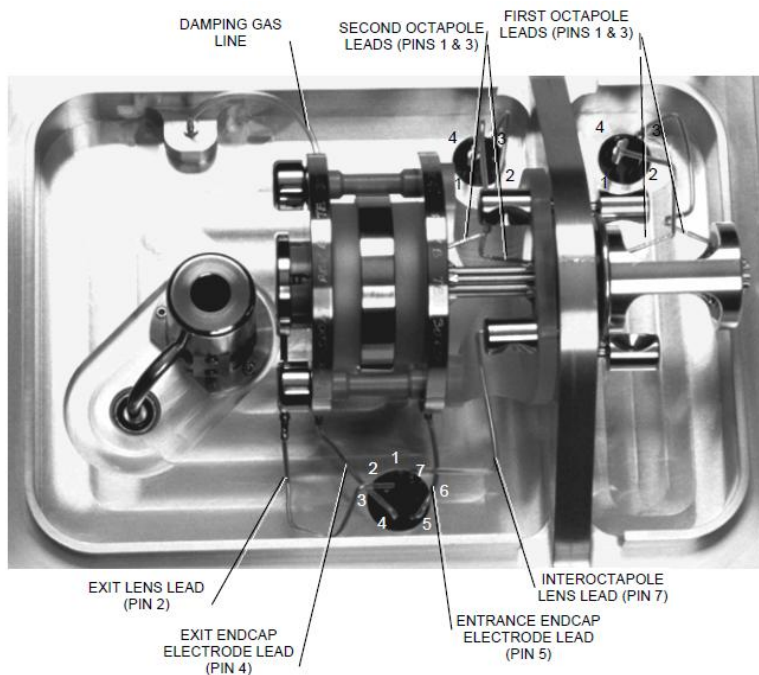
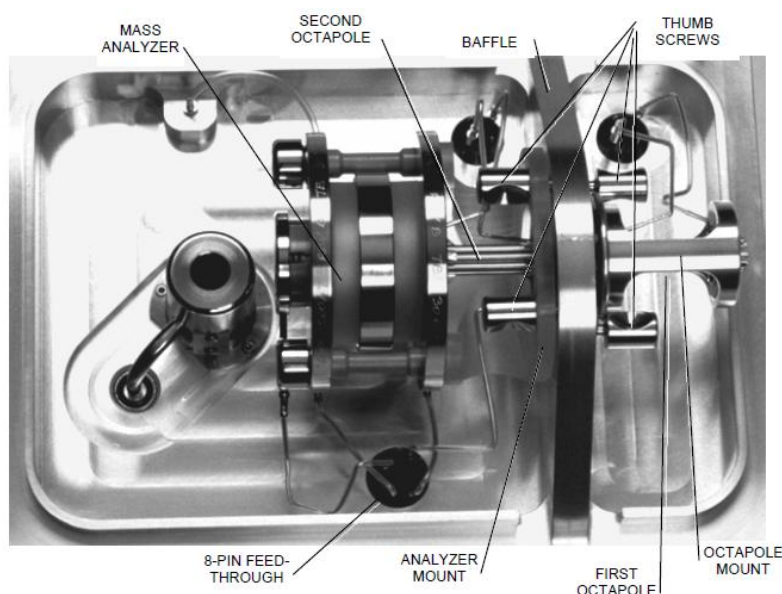
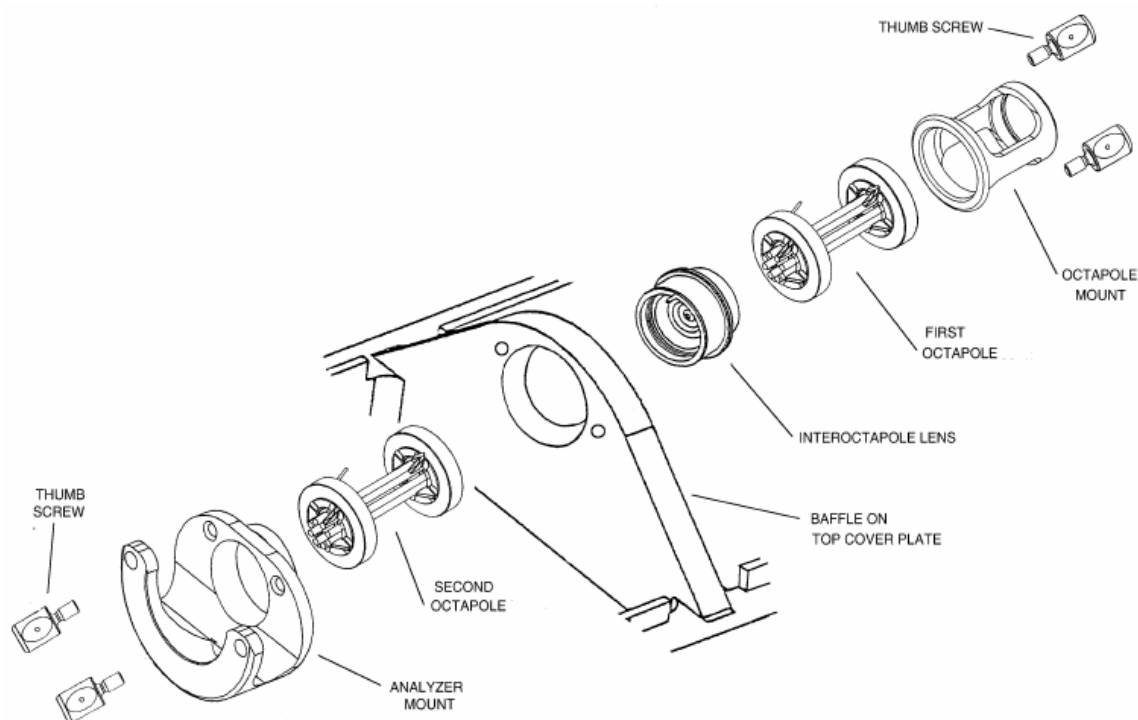
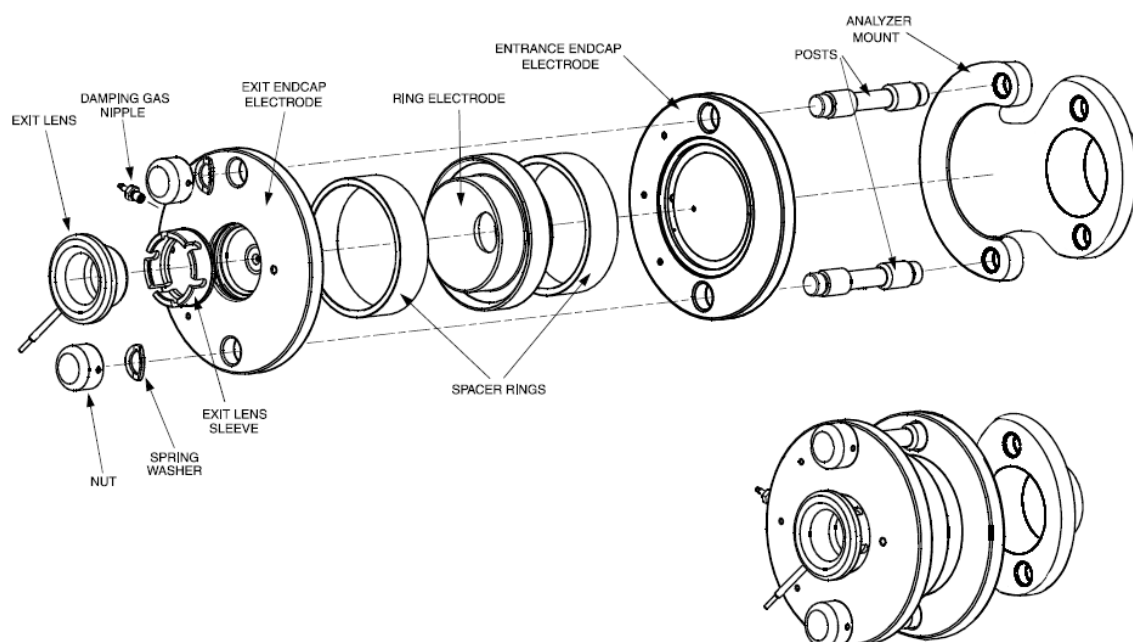

Figure 11. Mass analyzer and ion optics, showing electrical and damping gas line connections.
Figure 12. Mass analyzer and ion optics, mounted to the baffle on the top cover plate of the vacuum manifold.
Figure 13. Exploded view of the ion optics.
Figure 14. Exploded and assembled views of the mass analyzer.
- 8.3.3. Remove the ion optics and mass analyzer by following the procedure below. Refer to Figure 11 and Figure 12 for the location of ion optics and mass analyzer. Refer to Figure 13 and Figure 14 for the location of the ion optics and mass analyzer components. Wear a clean, lint-free, nylon or cotton gloves handling the ion optics and mass analyzer components.
- 8.3.3.2. Disconnect the two electrical leads to the first octapole. See Figure 11.
- 8.3.3.3. Hold the octapole mount with one hand; loosen and remove the two thumb screws that hold the octapole mount to the baffle on the top cover plate of the vacuum manifold. See Figure 12.
- 8.3.3.5. Disconnect the electrical lead to the interoctapole lens. Remove the interoctapole lens. See Figure 11.
- 8.3.3.6. Disconnect the electrical leads to the second octapole and to the exit lens, exit endcap electrode, and entrance endcap electrode of the mass analyzer. See Figure 11.
- 8.3.3.7. Disconnect the damping gas line from the nipple on the exit endcap electrode by pulling the line free from the nipple. See Figure 12.
- 8.3.3.8. Hold the mass analyzer with one hand; loosen the two thumb screws that hold the analyzer mount to the baffle. See Figure 12.
- 8.3.4. Disassemble the ion optics and mass analyzer by following the procedure below. Refer to Figure 13 and Figure 14 for the location of the ion optics and mass analyzer components.
- 8.3.6. Reassemble the ion optics and mass analyzer. Refer to Figure 13 and Figure 14. Wear a clean, lint-free, nylon or cotton gloves when handling components of the mass analyzer.
- 8.3.6.1.2. Reinstall the entrance endcap electrode onto the posts. (The entrance endcap electrode is the one without the damping gas nipple.) Ensure that the electrode is oriented such that the convex surface faces away from the analyzer mount. Also, the opening in which the pin on the end of the electrical lead inserts should be close to the top cover plate when the analyzer mount is installed on the top cover plate. See Figure 11.
- 8.3.6.1.10. Squeeze the exit lens sleeve and insert it into the recess in the exit endcap electrode. See Figure 14 for the proper orientation of the exit lens sleeve.
- 8.3.6.1.11. Insert the exit lens into the exit lens sleeve such that the lead pin on the exit lens points in the same direction as the 8-pin feedthrough when the analyzer mount is installed on the top cover plate. See Figure 11. Make sure that the exit lens lead pin does not contact the nut on the end of the mass analyzer post.
- 8.3.7.1. Insert the cylindrical end of the analyzer mount (with the mass analyzer and second octapole attached) into the opening in the baffle on the top cover plate of the vacuum manifold. Ensure that the open side of the analyzer mount is away from the top cover plate. See Figure 12.
- 8.3.7.6. Reconnect the two electrical leads from pins 1 and 3 of the 4-pin feedthrough (see Figure 11) to the first octapole.
- 8.3.7.8. Reconnect the two electrical leads from pins 1 and 3 of the 4-pin feedthrough (see Figure 11) to the second octapole.
- 8.3.7.9. Reconnect the electrical lead from pin 5 of the 8-pin feedthrough (see Figure 11) to the entrance endcap electrode by inserting the pin on the end of the lead into the socket in the electrode.
- 8.3.7.10. Reconnect the electrical lead from pin 4 of the 8-pin feedthrough (see Figure 11) to the exit endcap electrode by inserting the pin on the end of the lead into the socket in the electrode.
- 8.3.7.11. Reconnect the electrical lead from pin 2 of the 8-pin feedthrough (see Figure 11) to the exit lens. Ensure that the exit lens lead pin does not contact the nut.